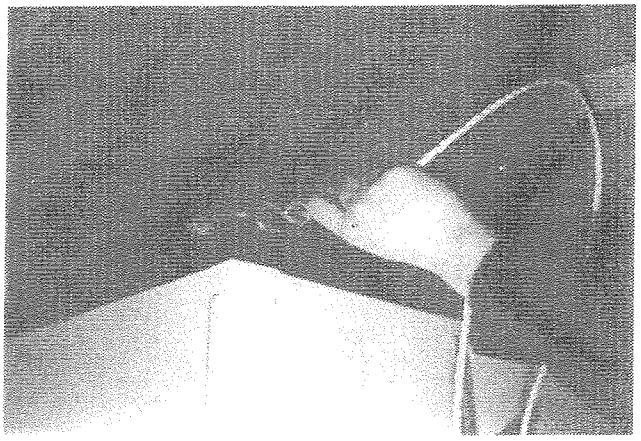

Figure 7
12. Attach the hook of each guy rope to the attachment at the bottom corners of the rear frame member (see Figure 7) and pull